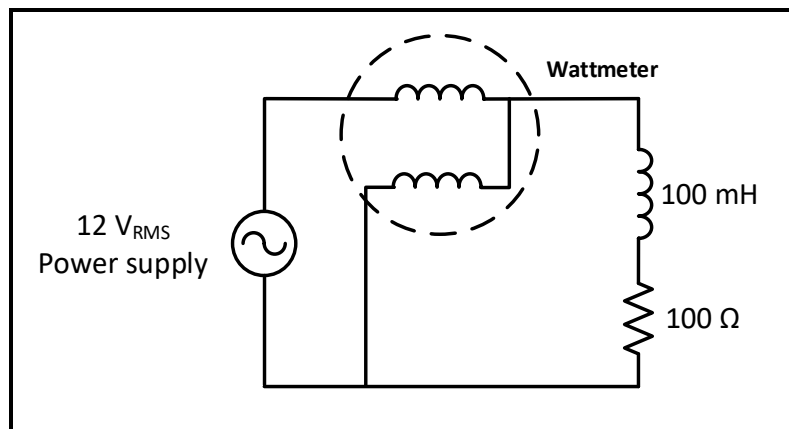

Figure 8.9
1. Connect the circuit of Figure 8.9, with the output of the power supply set to 12 V_{RMS} .